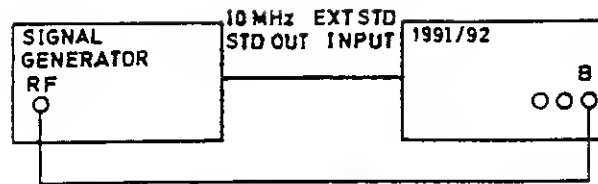

Figure 6.29 - Connections for Channel B Sensitivity PVP (I)
- b. Connect the test equipment as shown in Figure 6.29. Check that the EXT STD LED lights